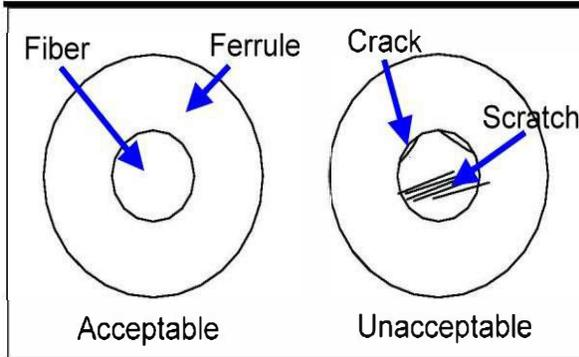

Fig. 29
Step 16 Clean connector end and use a X200 microscope to inspect the end surface of the connector. No adhesive, crack and scratch should be visible. See Fig. 29.